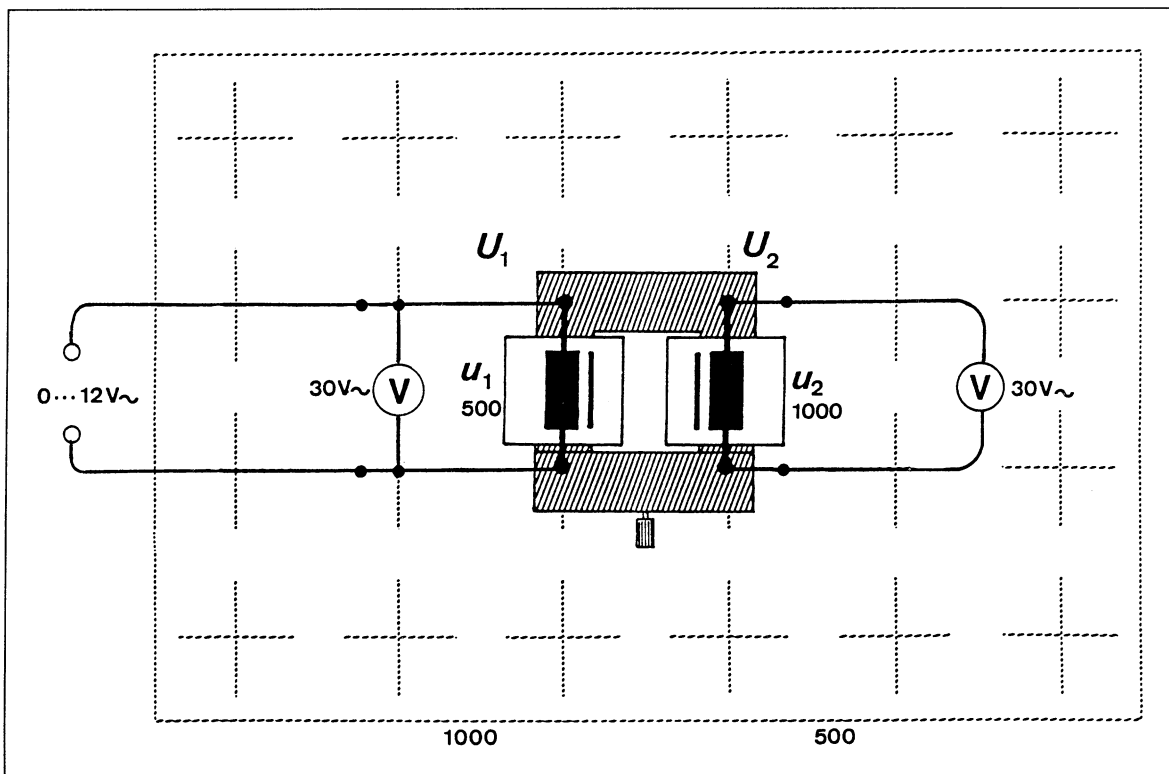

Fig. 1 Experiment setup: voltage transformation
- Set up the circuit as shown in Fig. 1. Screw the yoke securely to the U-coil (with the bare side inward).